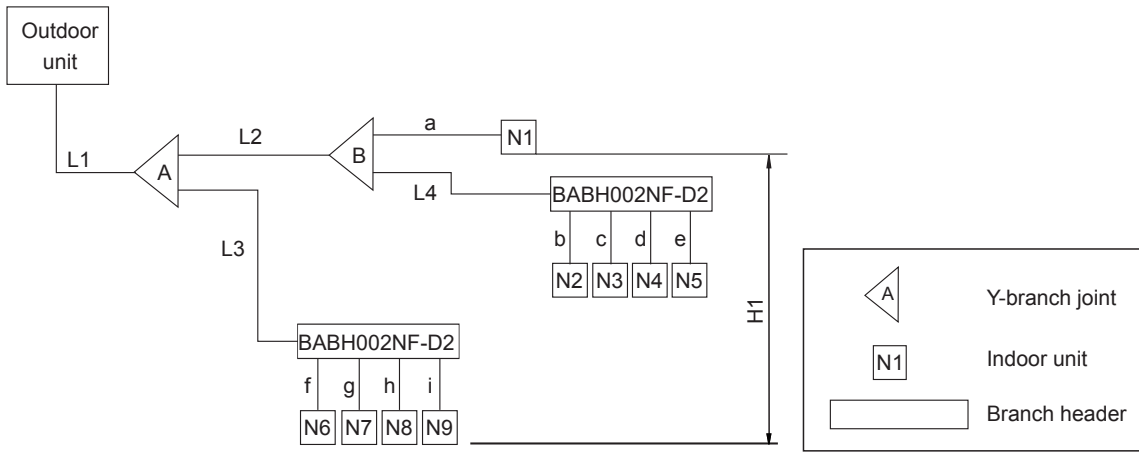

Fig.4
3. Restrictions of piping length and high/low difference. See Fig.4.